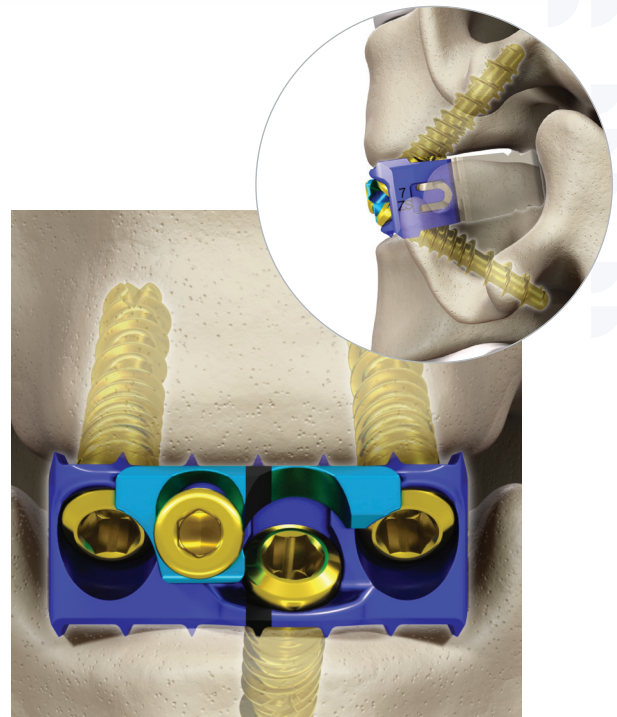

Figure 42
- Completely engage the 2.0 mm hex driver in each screw head, and fully seat all bone screws (Figure 42).